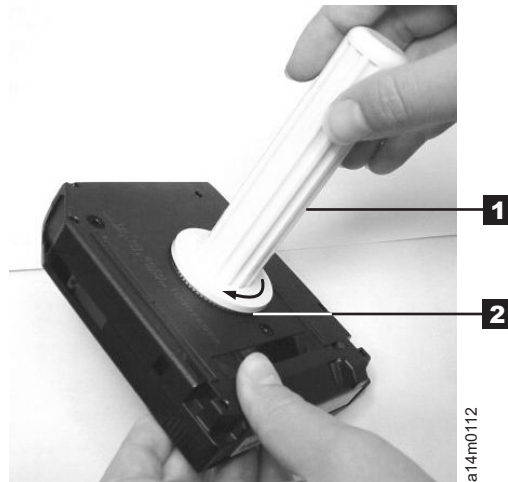

Figure 14: Rewinding the tape into the cartridge
5. To rewind the tape, insert the cartridge manual rewind tool (1 in Figure 14 on page 28) into the cartridge's hub (2) and turn it clockwise until the tape becomes taut.